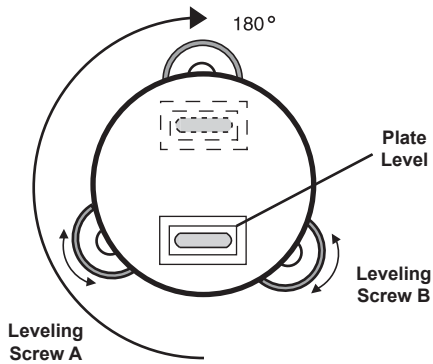

Figure A-2. Checking the Plate Level
1. Place the plate level parallel to a line running through the center of two leveling screws; for example, leveling screws A and B (Figure A-2).
3. Rotate the instrument 180° or $200g$ around the vertical axis and check bubble movement of the plate level (Figure A-2). If the bubble has been displaced, then adjust the plate level as seen in “Adjusting the Plate Level” on page A-4.
3. Rotate the instrument 180° or $200g$ around the vertical axis once more and check bubble movement (Figure A-2 on page A-3). If the bubble is still displaced, then repeat the adjustment.
3. Rotate the instrument 180° or $200g$ around the vertical axis once more and check the center mark (Figure A-2 on page A-3). If it aligns to the point, further adjustment is not required. Otherwise, repeat the adjustment.